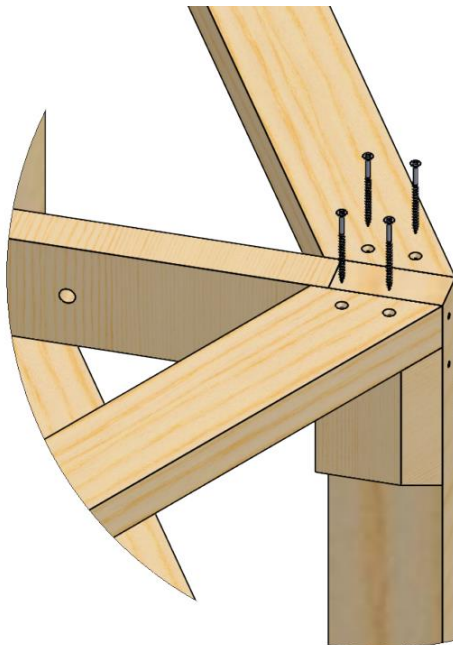

Figure 4
4) Using 3" screws (Bag #1), screw cross members to the leg assemblies as shown in Figure 4.